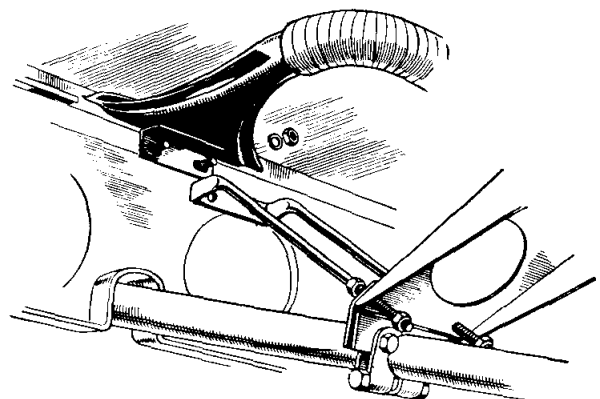

Fig. 10 Releasing Steering Support Rod when fitting Demister Nozzle to steering side of car
It will be necessary to drop this support rod clear of the studs and this will be facilitated by slackening off the upper nuts on each arm of the "U" (Fig. 10). Locate the demister nozzles (1) on the two pairs of studs ensuring that they are above and clear of the screen wiper drive cable. Reposition "U" shaped rod and refit nuts and washers on the four studs and retighten with a suitable spanner.